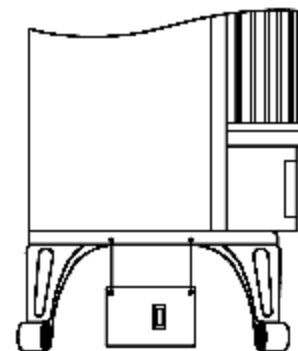

Figure 5 Mounting Control Housing
6. Place operation control housing at the bottom of stove. Use two black screws provided in blower kit. Mount blower operation control housing to the bracket at the bottom of stove (see Figure 5).